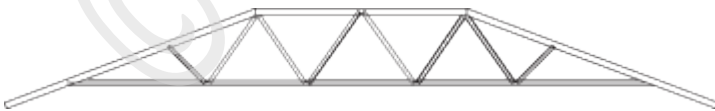

Figure 5.7 Truncated Truss/Hip Girder Truss
5.7) Truncated Truss: A truss of varying depth with a horizontal top chord. Truncated trusses are usually used to form a hip end (Refer to **Figure 5.7**).